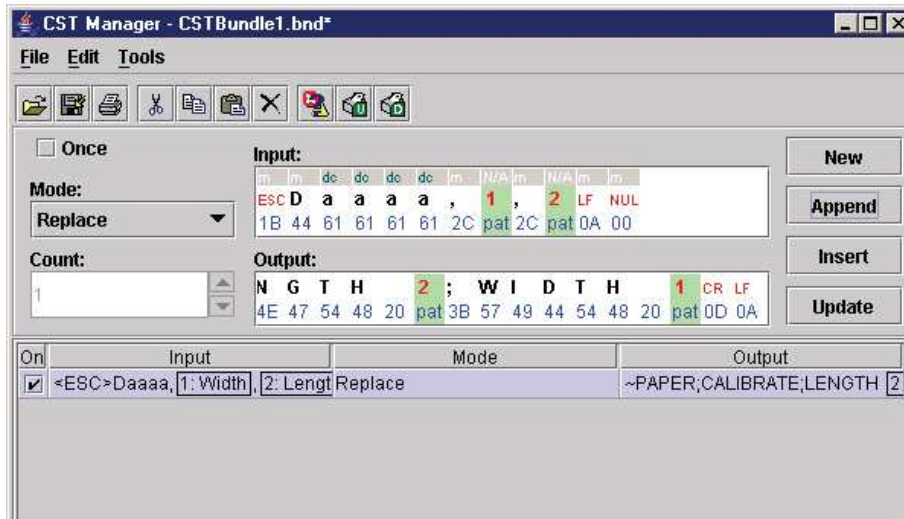

Figure 161 The Appended CST
34. Click **Append**. See Figure 161.